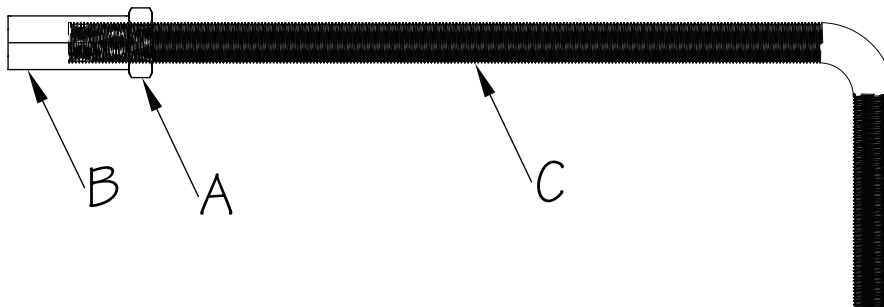

Fig. 4
2. Thread the Jam Nut (A) and Coupler (B) onto the Threaded Rod (C) so that the rod is inserted halfway into the Coupler. Repeat for other threaded rod (Fig. 4).